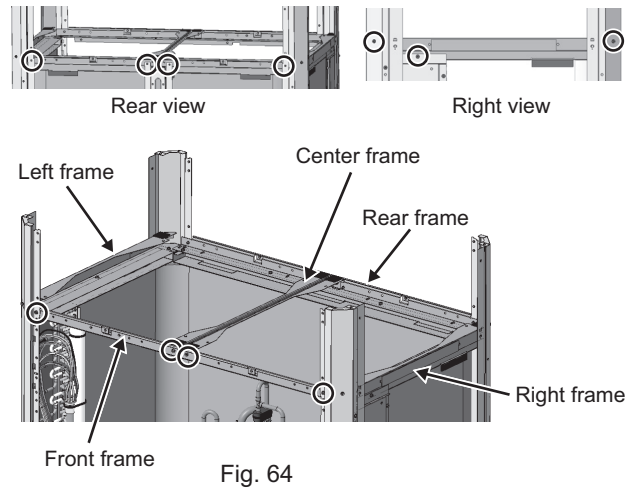

Fig. 64
(11) Remove each frame on the top of the unit. At this time, remove the screws from all frames before removing the frames. (Two screws on the front and rear each, and three screws on right and left each, and four screws on the center frame: Fig. 64)